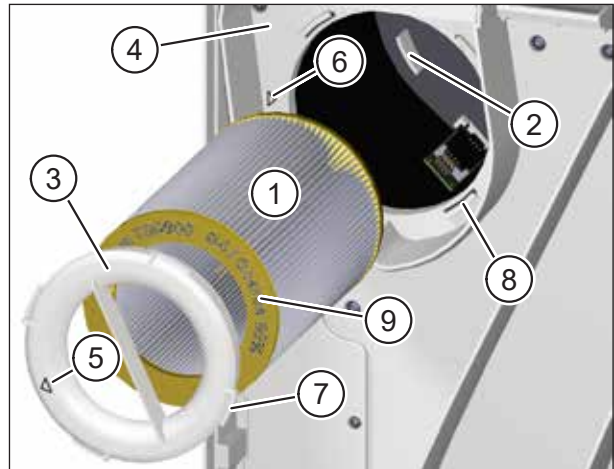

Fig. 16: Insert new extract air filter
- ▶ Carefully guide the new extract air filter (item 1 in Fig. 16) into the ventilation unit.
- ▶ Make sure that the air filter slides into the 3 retaining tabs (item 2 in Fig. 16) on the back wall of the ventilation unit.
- ▶ Place the filter ring (item 3 in Fig. 16) on the extract air filter. Make sure that the filter ring lies flat on the intermediate plate (item 4 in Fig. 16).
- ▶ Turn the filter ring clockwise until the arrow on the filter ring (item 5 in Fig. 16) lines up with the arrow for the locking position (item 6 in Fig. 16). Make sure that the 4 tabs (item 7 in Fig. 16) on the filter ring engage in the retainers (item 8 in Fig. 16) on the intermediate plate.
- Only M-WRG-II FS, part no. 750000, may be used as the extract air filter. The part no. and air filter class are imprinted on the yellow end plate of the air filter (item 9 in Fig. 16).